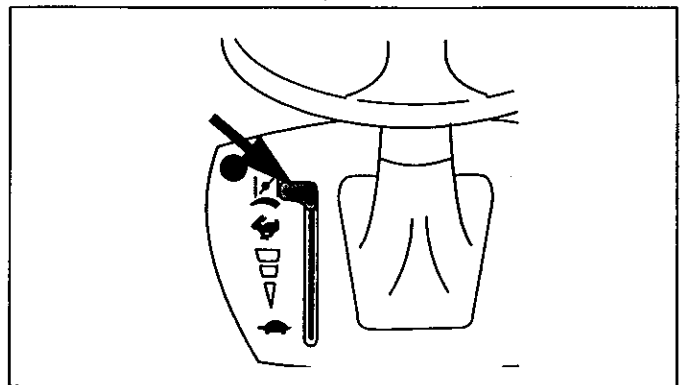

Figure 13. Combined Speed and Choke Control
- Move combined control to "CHOKE" or "START" position, if present (see equipment manufacturer's instructions). See Figures 13 and 14.
If restarting a warm engine after a short shutdown, move combined control to "FAST" instead of "CHOKE" or "START" position. See Figures 13 and 14.